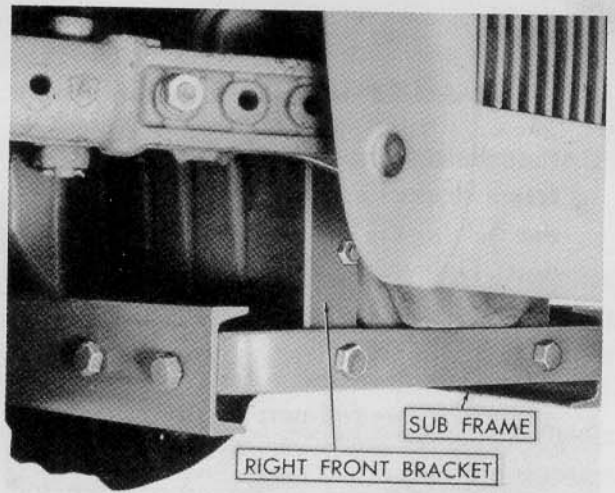

Figure 12
8. Raise the front end of the sub-frame and attach it to the front brackets with $\frac{5}{8}$ " x $1\frac{5}{8}$ " bolts, lock washers and nuts. It may be necessary to move the sub-frame nose piece forward or back to make it fit properly in front of the front brackets. See Figure 12.